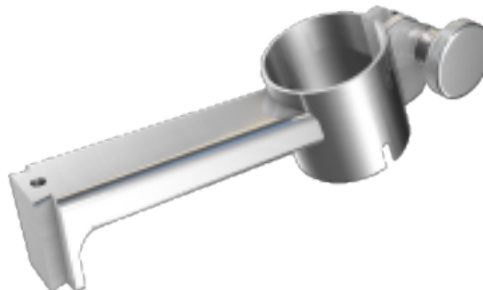

Figure 1
1. Disassemble the Cup Sleeve with A-Frame Connection by rotating screw counter-clockwise as shown in Figure 1–2 (see blue arrow).